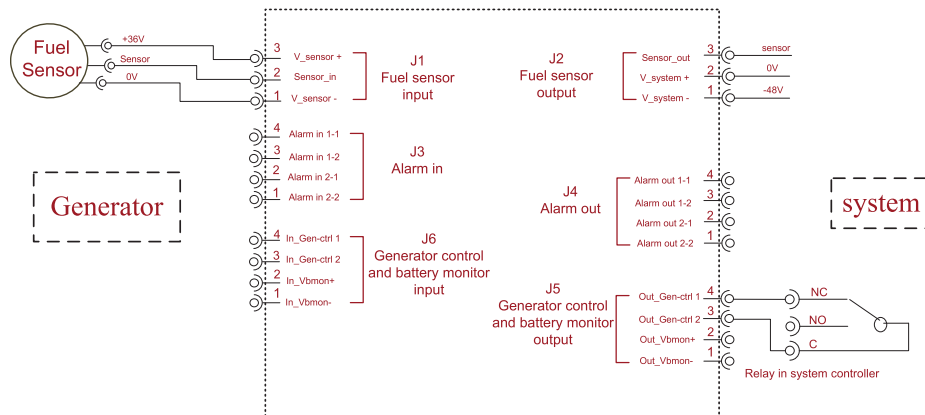

Figure 4-18 Genset Kit Connections
2. Slide the rectifier/solar converter module into the slot until it contacts the interface connection at the rear of the shelf, Figure 4-18 1.
3. Fully insert the rectifier/solar converter by pushing the handle towards the shelf. The rectifier/solar converter handle will rise up and lock the rectifier/solar converter into the position, Figure 4-18 2.